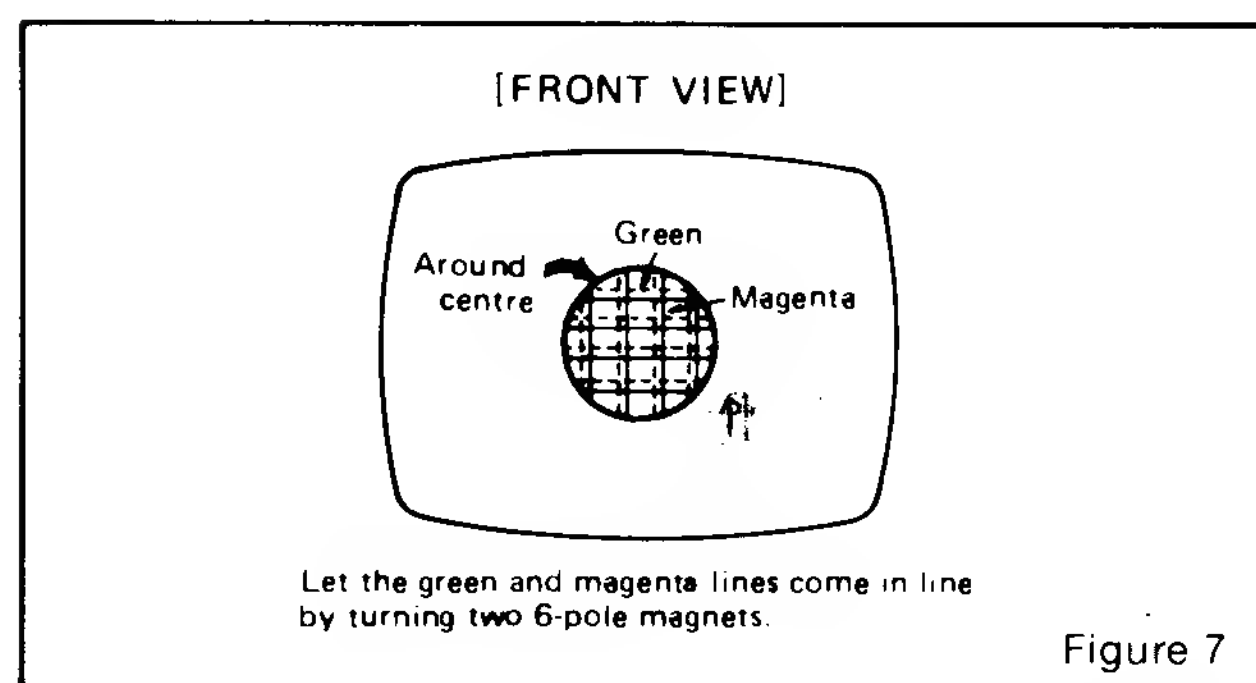

Figure 7
2.6 Turn on green input to obtain magenta (red/blue) and green crosshatch lines. Rotate the 6-pole (rear) pair of magnets as a unit to minimize separation of the magenta and green lines (figure 7). Vary angle between the two tabs and further rotate as a unit to finalize.